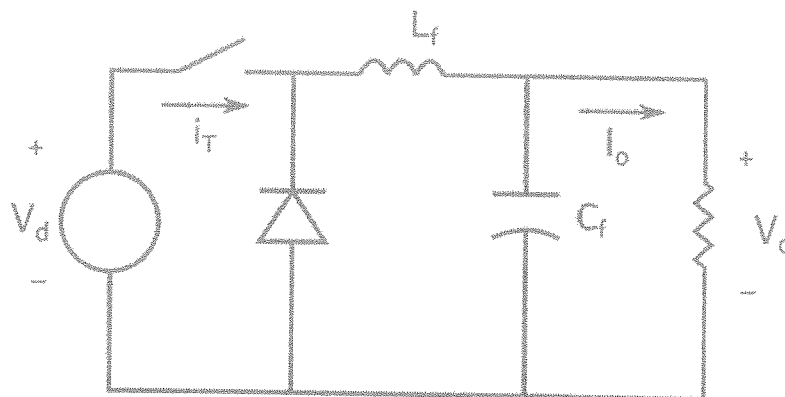

Figure Q5(b).
- b) The buck converter shown in Figure Q5(b) gives a 12 V output voltage for input voltage of 100 V. The power rating of this converter is 240 W. The circuit shown in the figure needs to be modified to improve the efficiency and to reduce the EMI generation from this converter.